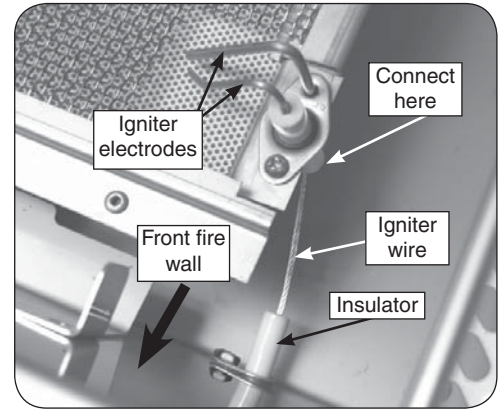

Fig. 4-1 Connect bare wire to electrode assy.
4. Connect the bare end of the igniter wire to the bottom of the electrode assembly on the infrared burner (see Fig. 4-1).